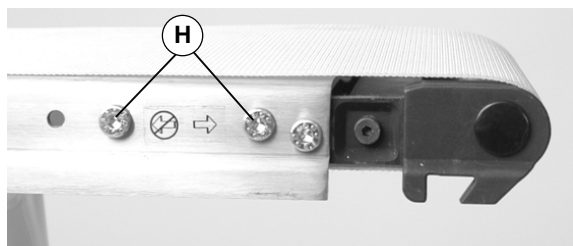

Figure 14
7. Remove head plate screws (H of Figure 14) on the non-gearmotor mount side of the conveyor.